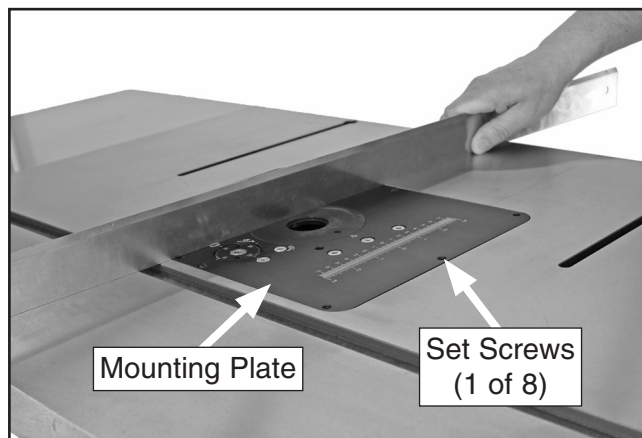

Figure 64. Example of using a straightedge to align mounting plate with table surface.
5. Adjust set screws (see **Figure 64**) in mounting plate as necessary so that straightedge lies flat on table surface at all positions of pattern.